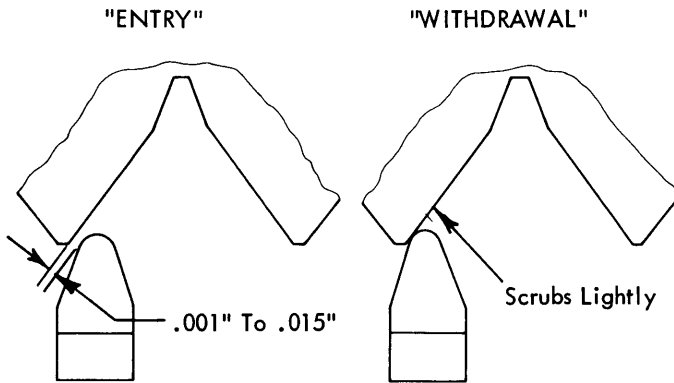

FIGURE 68a. Detent Timing Of The "M"
a. **Machines Equipped With An Impression Control Lever** - While slowly hand-cycling an upper case "M" (-5) remove the head play lightly in the positive direction (against the direction of rotation) and observe how the rotate detent ENTERS the detent notch. It should clear the side of the detent notch by .001" to .015" just as it enters (Fig. 68a). This entry clearance should cause the detent to scrub on the side of the detent notch during withdrawal when the machine is hand-cycled back to rest. During a powered operation the dynamics of the system causes the typehead to lag behind by as much as 12° during the restoring portion of the cycle, therefore this scrubbing on withdrawal is not felt in the system when the machine is operated under power.